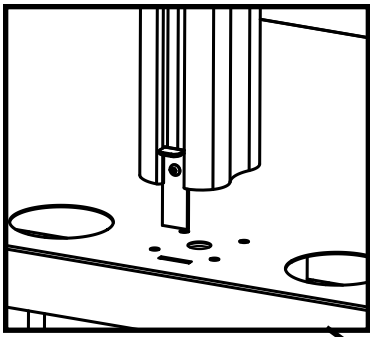

FIGURE 4
Attach pole to top shelf. Align pole over holes in top shelf as shown in **FIGURE 4**. Secure from **UNDERNEATH** with screw (FF), washer (GG), screws (HH) and washers (II) as shown in **FIGURE 5**.